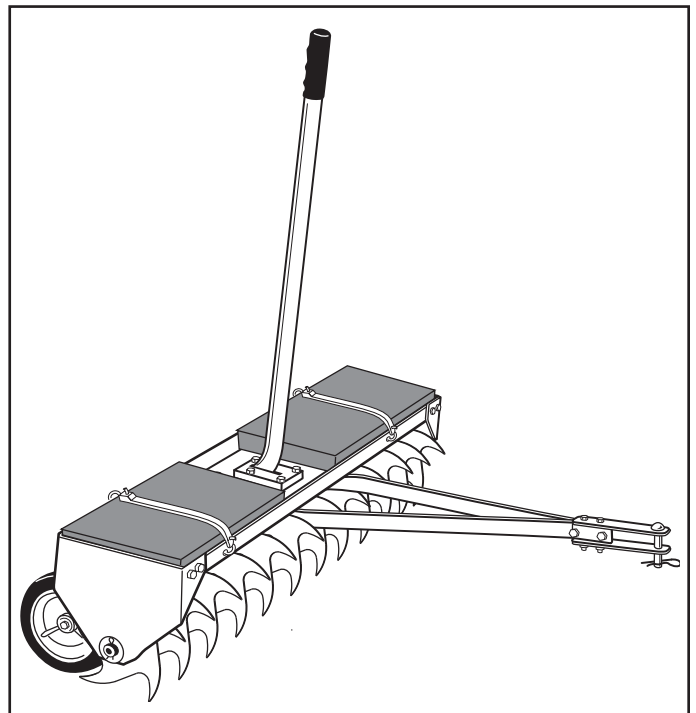

FIGURE 17
11. To increase depth of spike point penetration, add weight to the tray as necessary. The tray holds concrete blocks or patio blocks at approximately 35 lbs. each. Secure the weights with straps or wire using the holes in the tray flange. See figure 17.